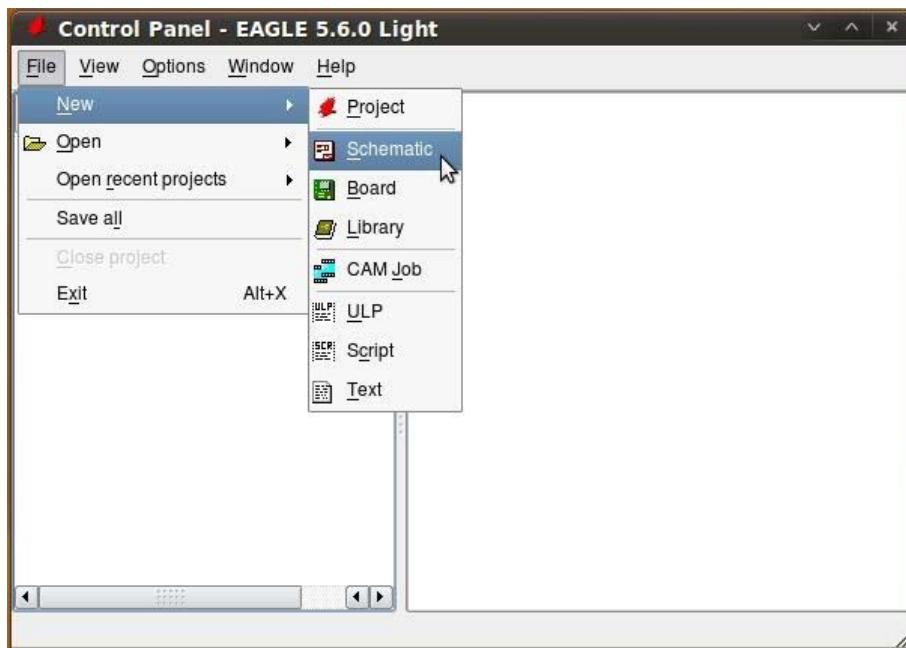

Figure 6-1. Selecting a new schematic from File New Schematic
1. *Open schematic editor:* Open the Eagle program on your computer and select File New Schematic from the menu bar as shown in Figure 6-1.